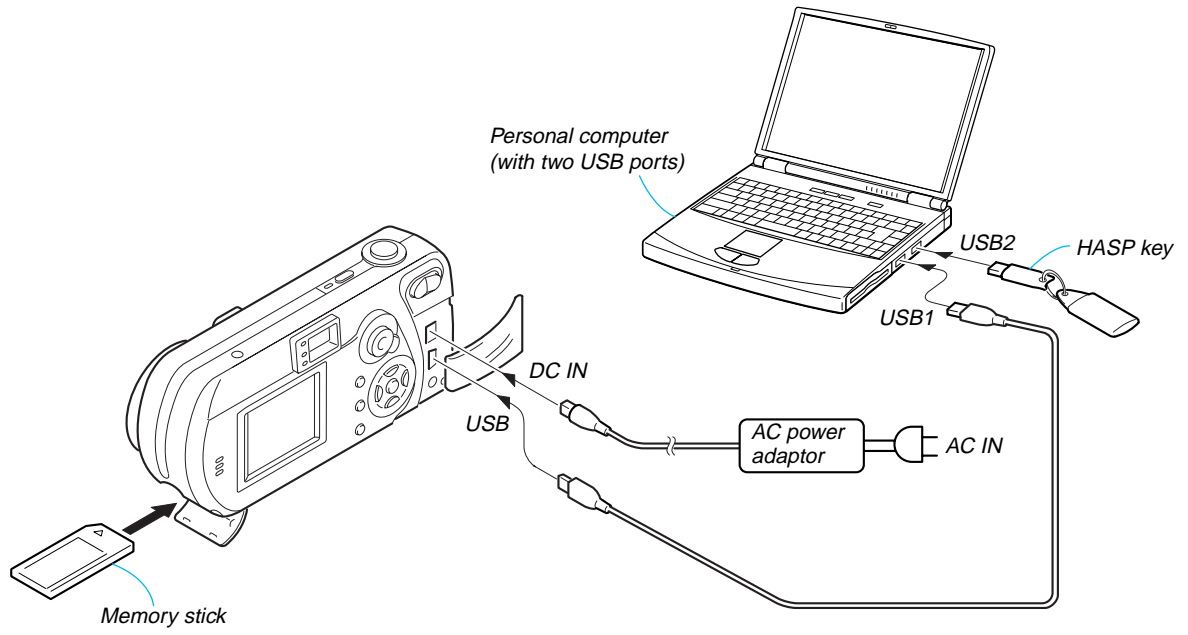

Fig. 6-1-4.
- 1) Connect the equipment for adjustments according to Fig. 6-1-4.